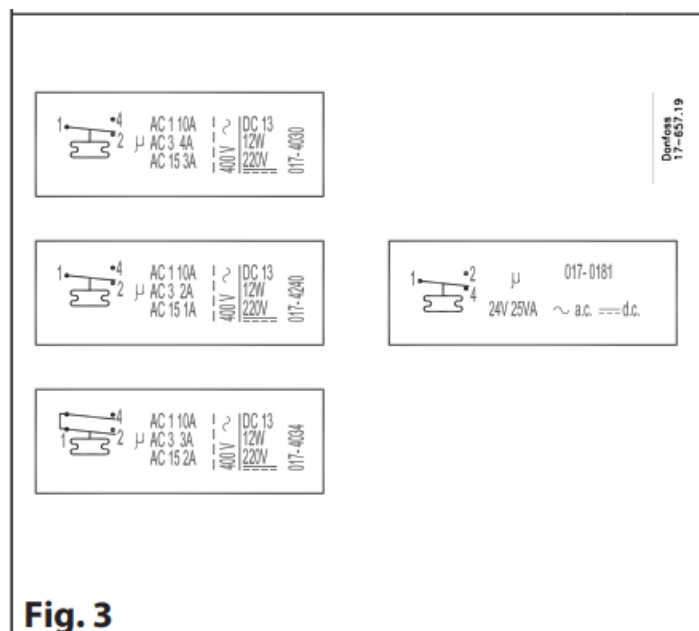

Fig. 3
See contact cover or fig. 3. If the contact load is given as, for example, 10 (4) A, 400 V AC, it means that the connected load must be max. 10 A ohmic and 4 A inductive at 400 V AC. The permissible starting current on motor cut-in can be up to seven times the inductive load, but max. 28 A. The switch meets the requirements of VDE* 0660.